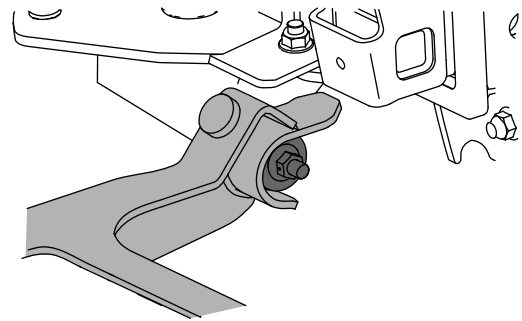

Figure 13
13. Place the blower assembly forks onto the bushing assemblies (Figure 13).